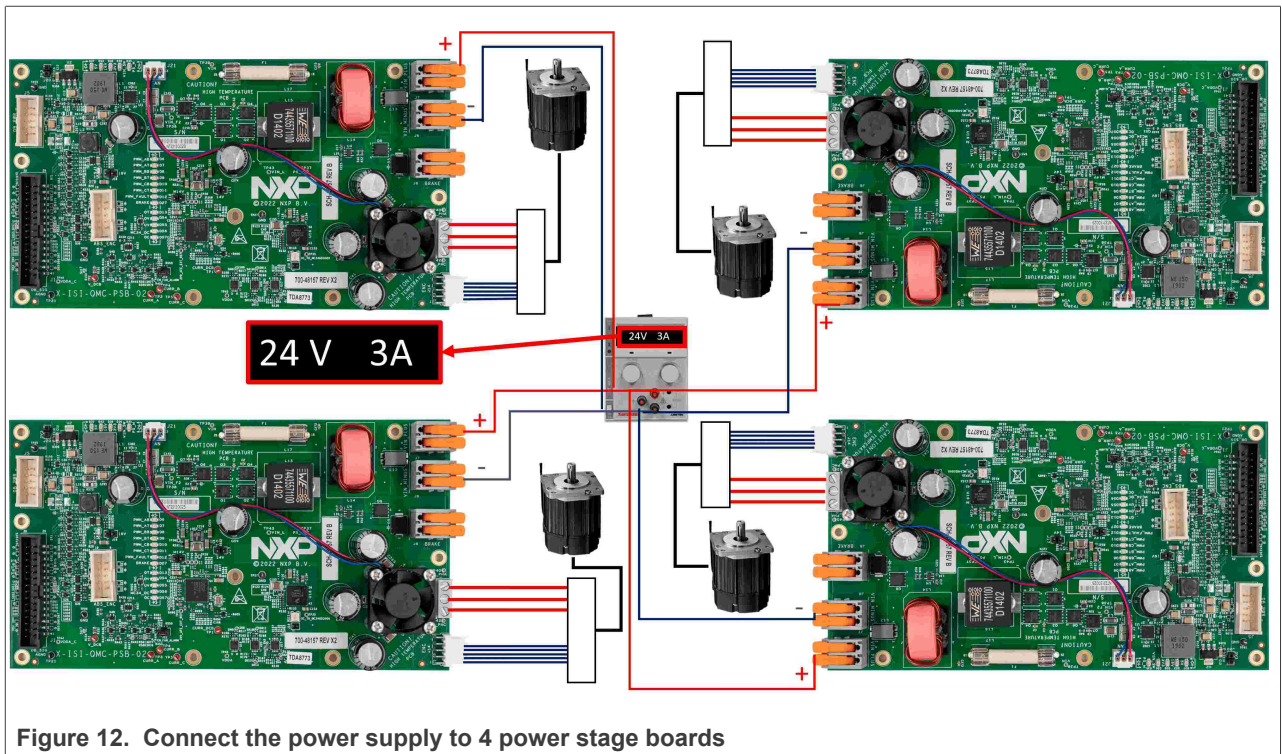

Figure 12. Connect the power supply to 4 power stage boards
4. If the power stage boards are correctly supplied and no fault has occurred, increase the maximum output current of the power supply unit to 3 A. At the end, the whole system must look as shown in Figure 12.